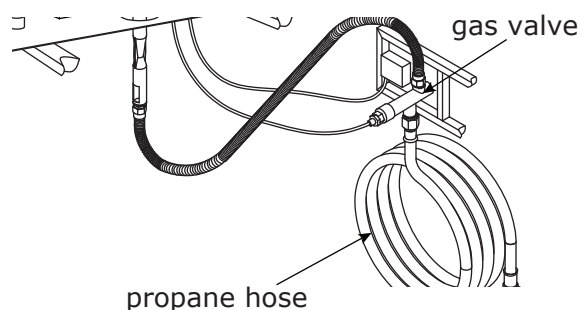

Figure 12
1. Disconnect the propane hose from the gas valve (see Figure 12).